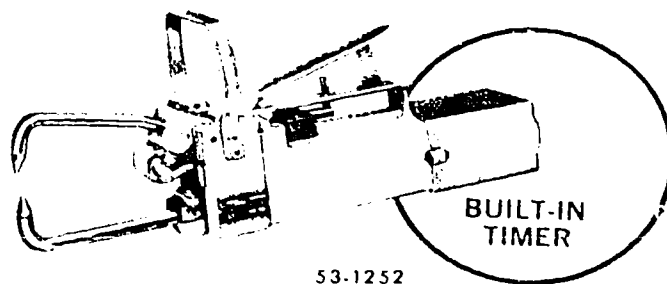

Figure 4-3. Portable spot welder.
**Portable Spot Welder.** The portable spot welder, illustrated in figure 4-3, is manually operated. To operate